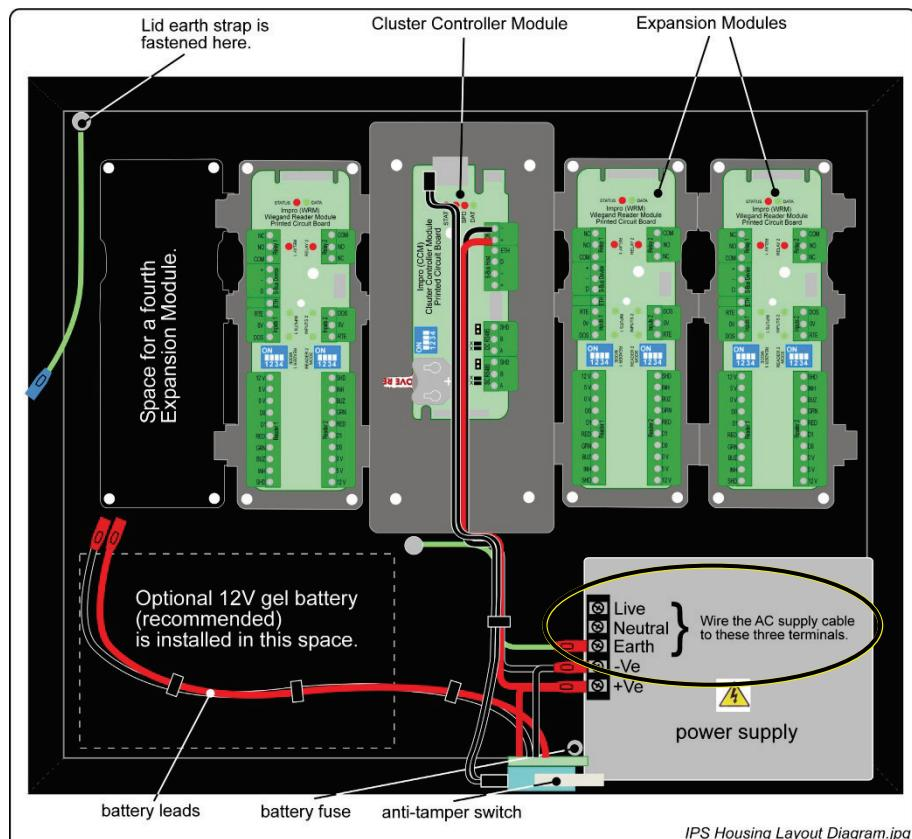

Figure 1: Key component positions, electrical mains connection highlighted
The installer will need to supply a 3-core mains power supply cable, which must be connected to the mains terminals on the DC power supply. (See Figure 1, on page 4, and “Connecting an AC mains power cable” on page 5)
8. Strip the Live, Earth and Neutral cores back by ~ 6 mm and clamp these onto the power supply terminals (indicated in **Figure 1**).
(Location shown in Figure 1, page 4)